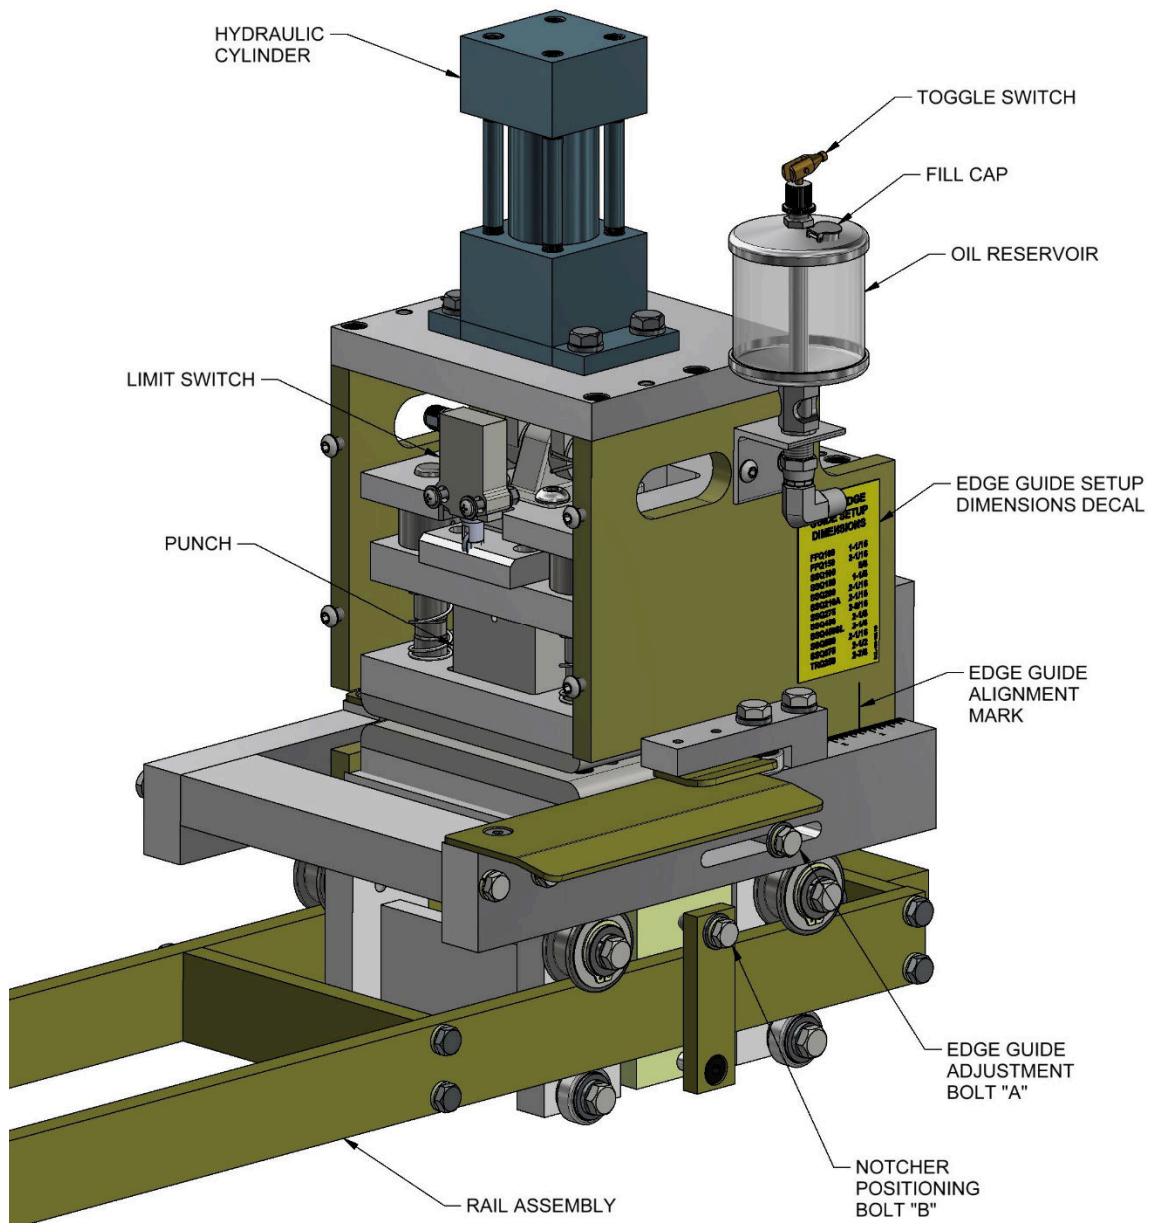
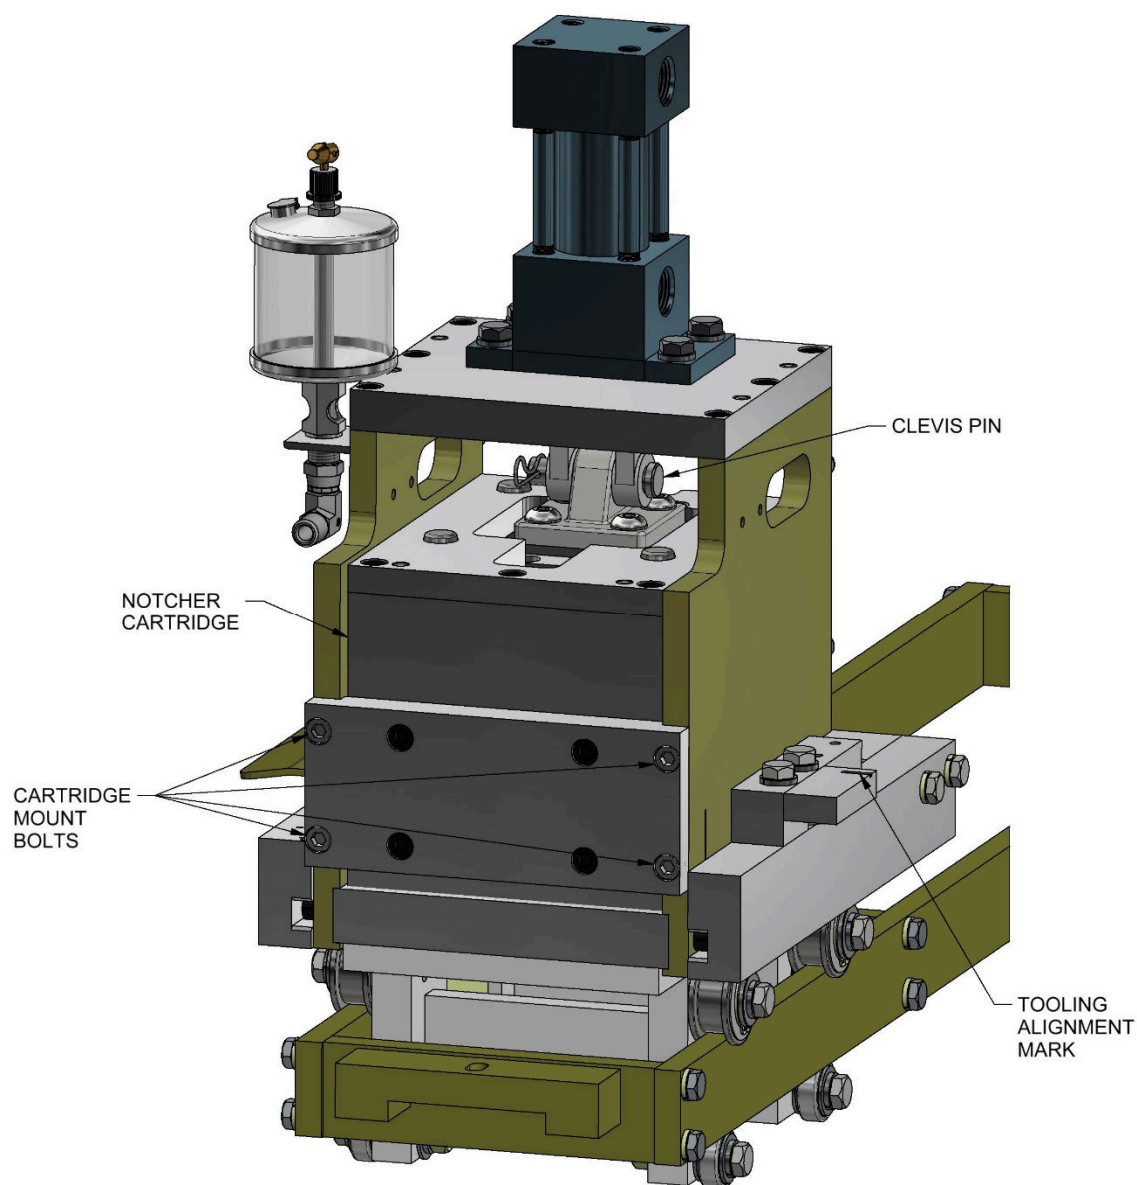
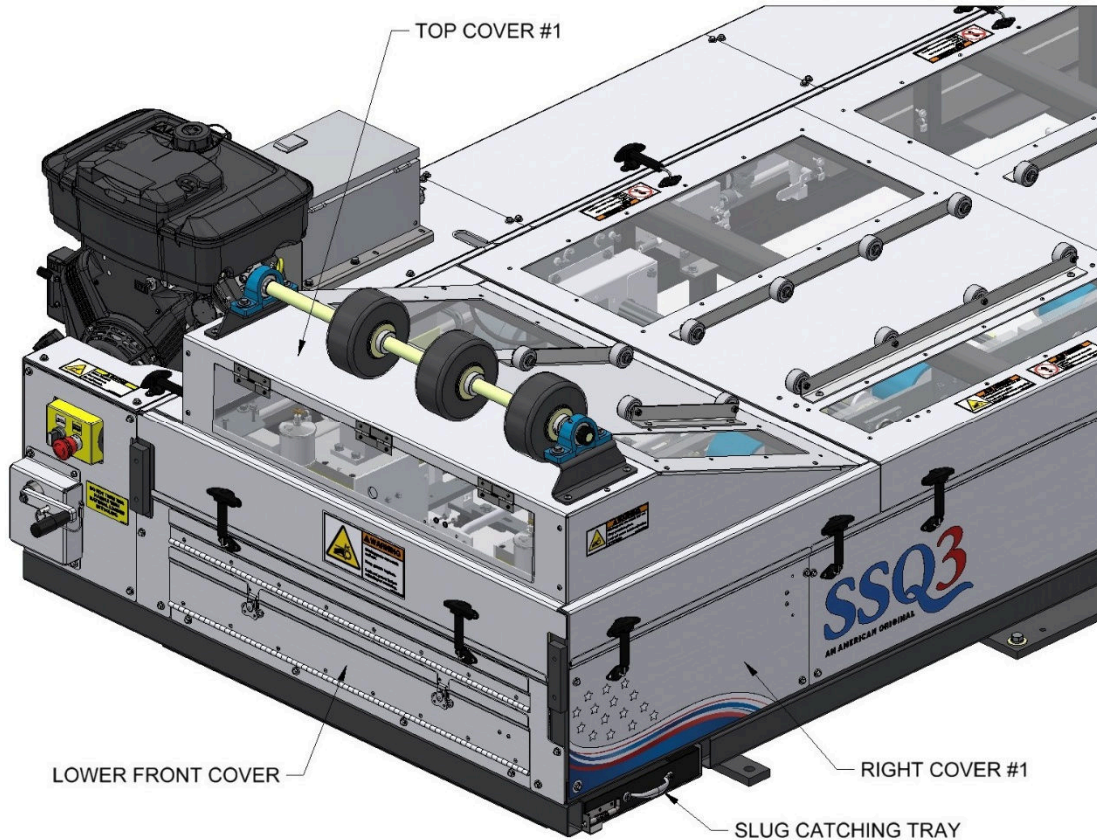

Figure 76: Notcher Overview #1
Figure 77: Notcher Overview #2
Figure 79: Notcher Covers
- Plate. **Note: If you have a Notcher System installed you would instead loosen the Notcher Positioning Bolt “B” on the right notcher, slide it left or right until the marker lines up with the tooling, and retighten the bolt (see Figure 76).**
14. Loosen the Lock Down Handle on the left entry guide. **Note: For notcher systems loosen the Notcher Positioning Bolt “B” on the left notcher (see Figure 76).**
16. Slide the Left Entry Guide to the left or right to accept the width of the coil. Make sure that the material is captured snugly between the entry guides and re-tighten the Lock Down Handle. **Note: For notcher systems slide the Left Notcher left or right to capture the material then tighten the Notcher Positioning Bolt “B” (see Figure 76).**
4. Loosen the Notcher Positioning Bolt "B" on the left Notcher (see Figure 76). Slide the left Notcher left or right as needed and insert the piece of coil into the Notchers.
(Refer to Figure 76 through Figure 79)
2. Remove Top Cover #1, Right Cover #1, and the Front Cover as shown in Figure 79.
5. Remove the Clevis Pin (see Figure 77).
6. Loosen the Edge Guide Adjustment Bolt “A” (see Figure 76).
7. Remove the four Cartridge Mount Bolts (see Figure 77) using a ¼” allen wrench.
(see Figure 76 and Figure 77)